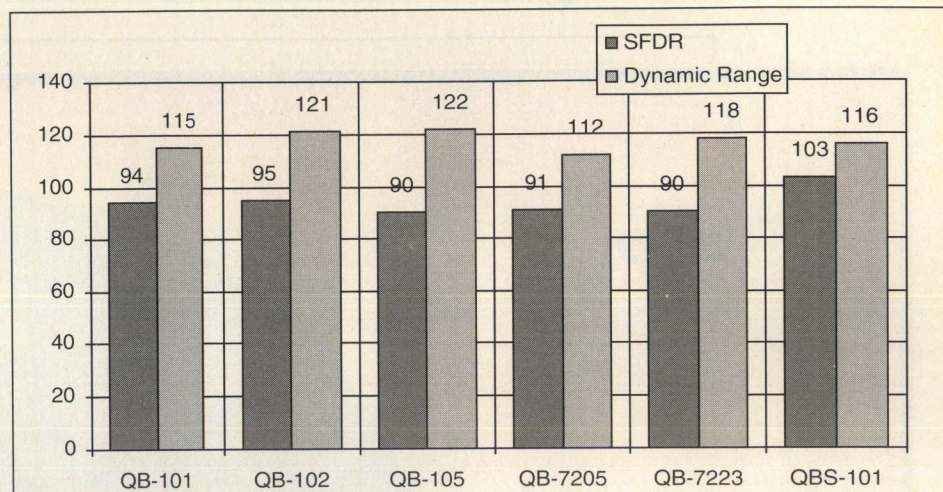

Figure 2. Typical dynamic range performance.
required for linear amplification in the front end of HF receivers. The dynamic range (DR) and the spurious-free dynamic range (SFDR) [2] of the amplifiers are presented in Figure 2. Note that all of the amplifiers have SFDR greater than 90 dB and DR greater than 115 dB.